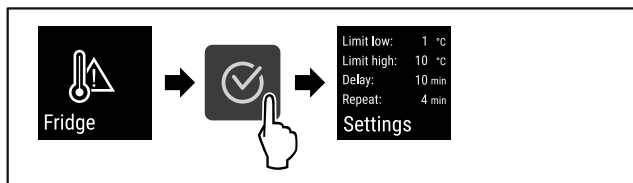

Fig. 118
- ▶ Complete steps (see Fig. 118).